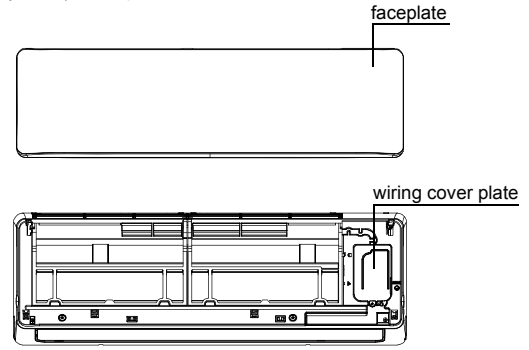

Fig.7-1
- 1 Take out the faceplate, then dismantle the display cover plate. (see Fig.7-1)